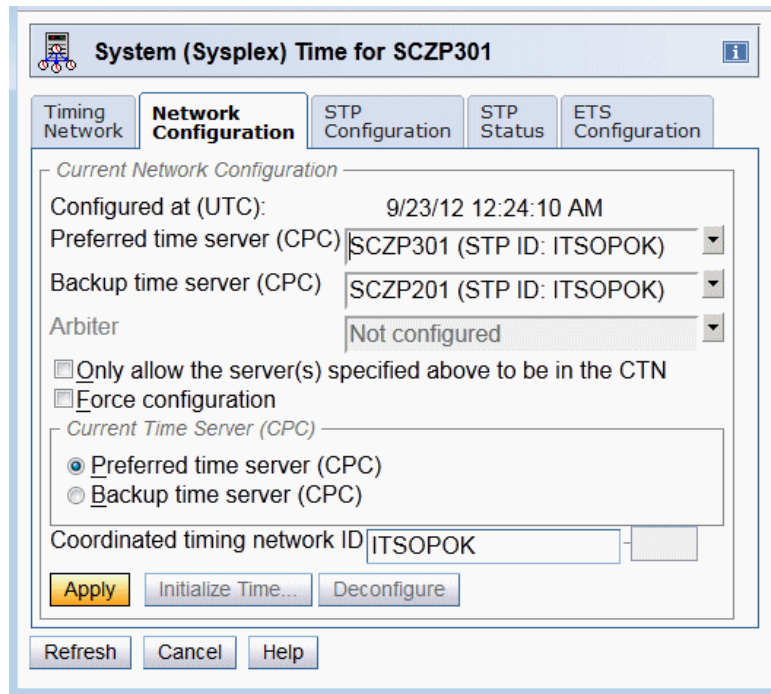

Figure 4-8 Remove the save STP configuration option from the existing CTN
3. Deselect the option **Only allow server(s) specified above to be in the CTN** and click **Apply** (Figure 4-8 on page 113).